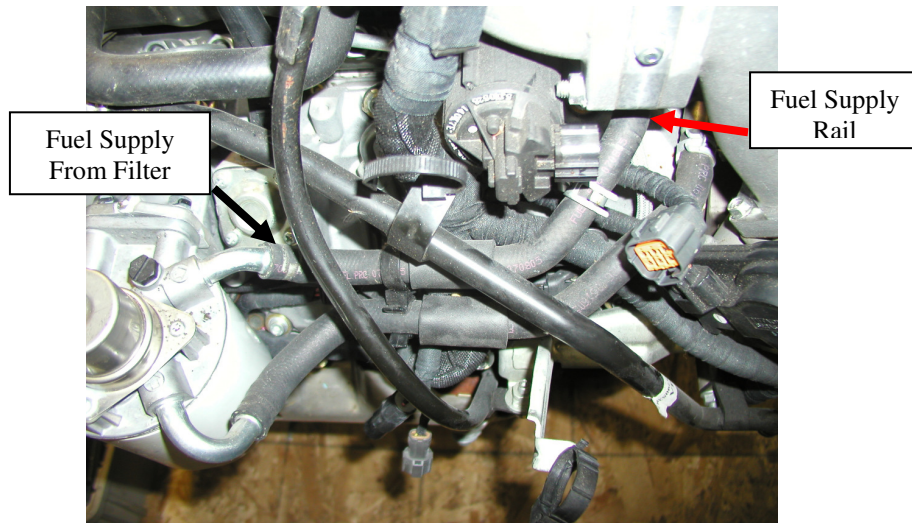

Figure 16: Factory Fuel Supply Line
21. Find the factory fuel supply line from the filter housing located on the passenger side of the engine, Figure 16.